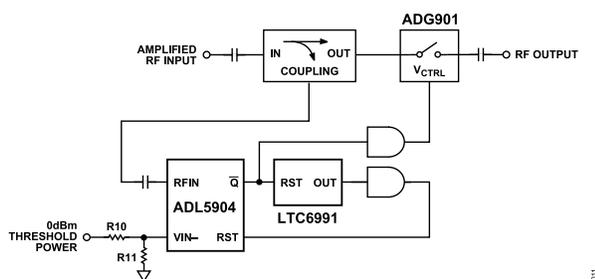

Figure 11. CN0555 Overpower Protection Circuit
The ADL5904 provides a resistor programmable detection threshold, which compares the voltage from an internal envelope detector with a user defined input voltage. When the voltage from the envelope detector exceeds the user defined threshold voltage at the VIN- pin, an internal comparator captures and latches the event to a set/reset (SR) flip-flop. Figure 11 shows the overpower protection circuitry for the CN0555.
As shown in Figure 11, the amplified RF input is sampled by a 3 dB, 90° hybrid coupler. This power is forwarded to the RFIN pin of the ADL5904, which is then sampled by the internal envelope detector. The ADL5904 threshold voltage level on VIN- pin is set by a resistor divider network, which value can be computed using Equation 1.